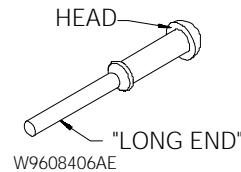

Figure 22: Pull Seal
2. Obtain a rubber pull seal from the hardware kit (Part Number 315 2569 001). An extra pull seal is also provided. See **Figure 22**.